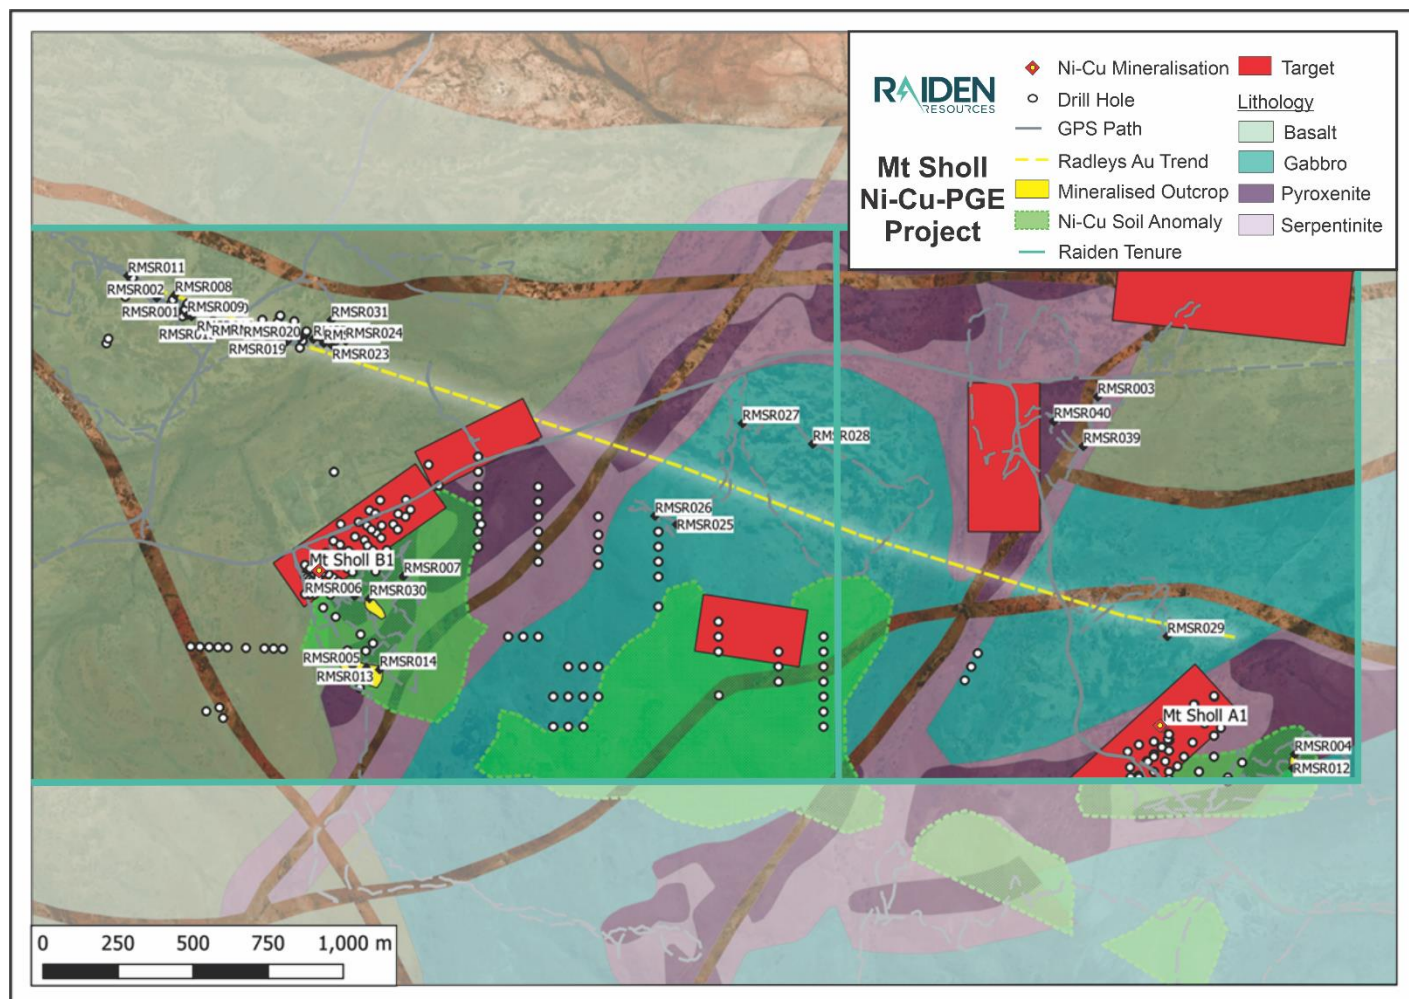

Figure 3: Mt Sholl interpreted geology, targets and sample locations
- **Terra Resources processed and interpreted historical magnetic, gravity, Aster and airborne EM data across Mt Sholl. The interpreted footprint of the Mt Sholl Intrusion, which hosts Ni-Cu-PGE mineralisation, is substantially larger than previously interpreted and several untested priority targets were identified (Refer figure 3)**